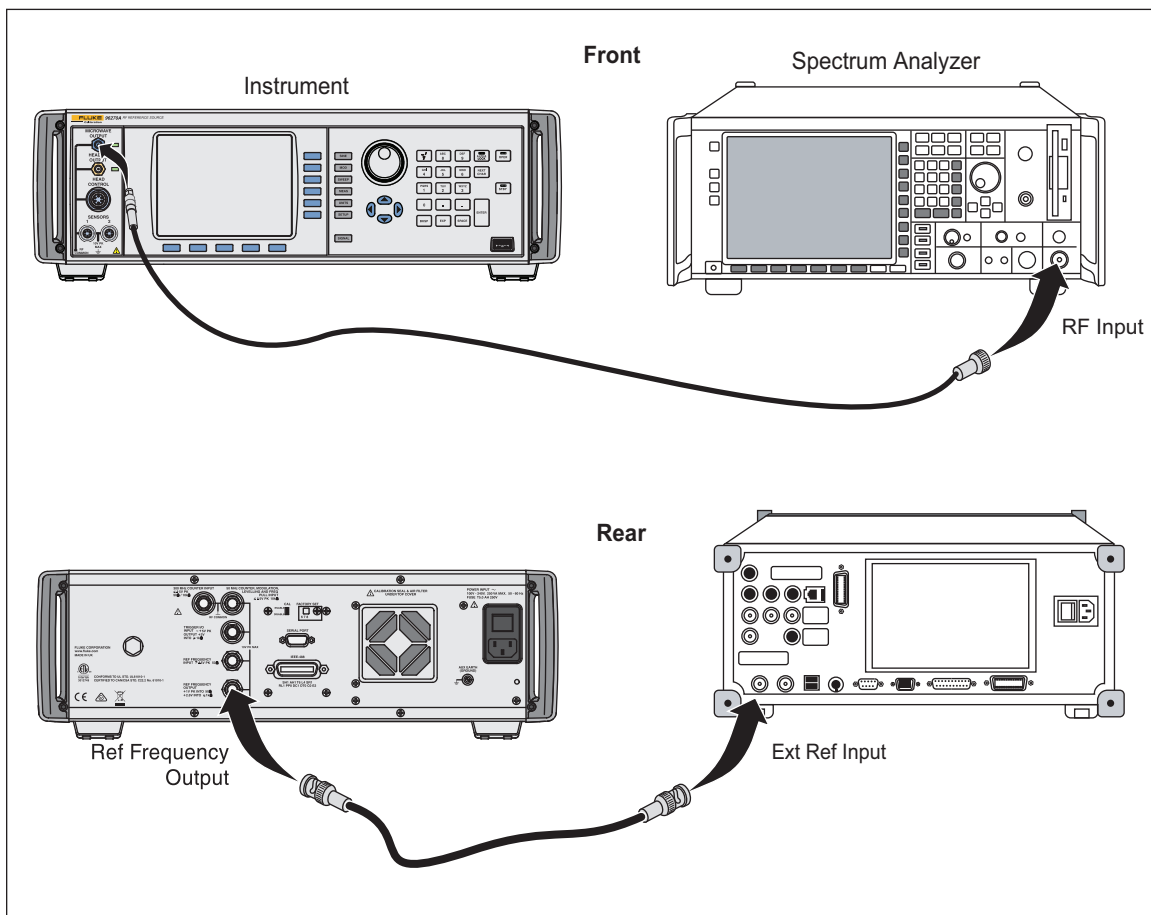

Figure 3-20. Equipment Connections – Microwave Output Harmonics and Spurious Content Test
2. Connect the REF FREQUENCY OUTPUT (rear panel) from the UUT to the Spectrum Analyzer Ext Ref In (on rear). See Figure 3-20 for equipment connections.